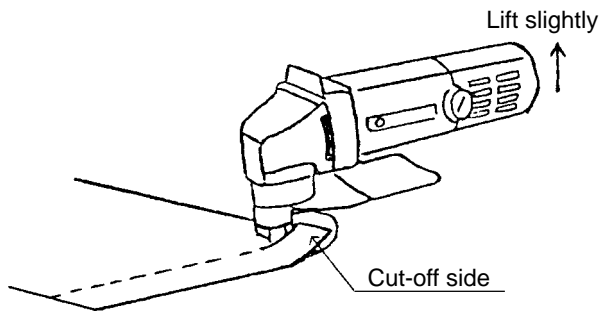

Fig. 2
- (1) As illustrated in Fig. 2, the tail portion of the main body of the tool should be lifted slightly when the cut-off side of the workpiece is on the left side of the tool.